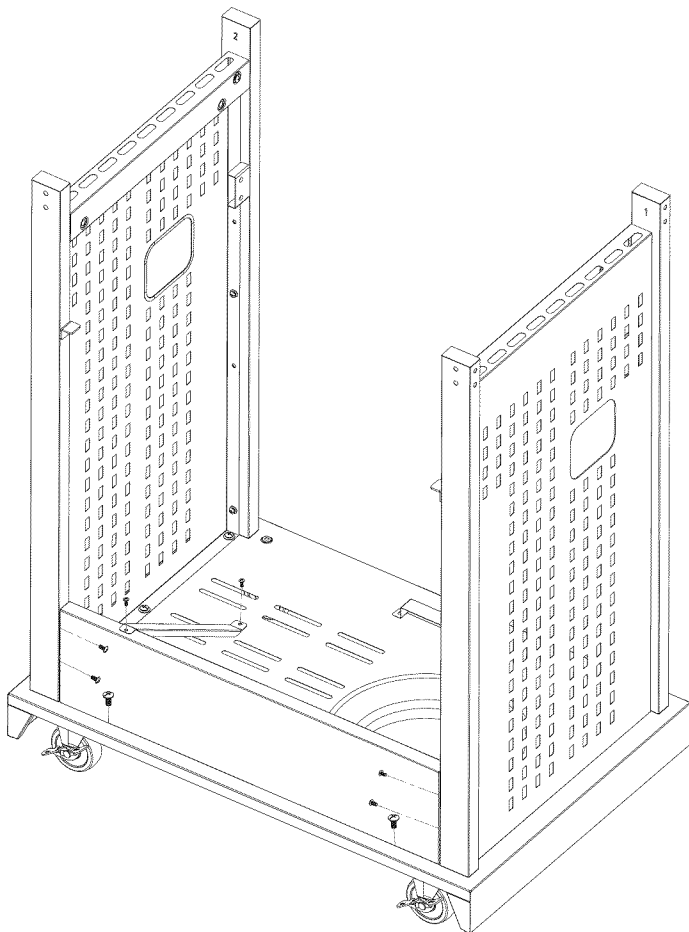

Fig. 5a
1. Attach back panel to the bottom shelf with two (2) M6 x 13 screws as shown in **Fig. 5a**.
2. Attach back panel to the left- and right-side shelves with four (4) M5 x 10 screws as shown in **Fig. 5a**.
3. Attach tank baffle bar to the back panel and bottom shelf with two (2) M4 x 10 screws as shown in **Fig. 5a**.